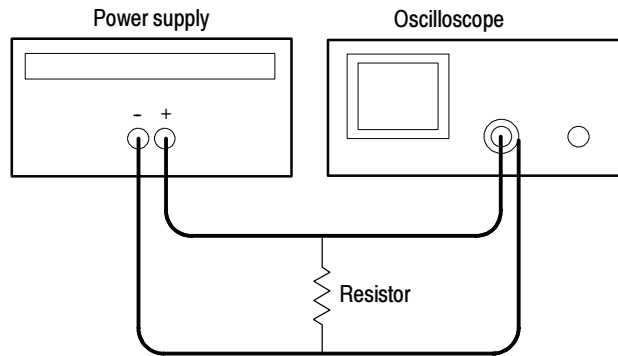

Figure 4: Constant voltage ripple and noise test setup
2. Ensure that the power supply output is disabled. Connect the oscilloscope and $27\ \Omega$ 100 W resistor to the front panel OUTPUT 1 terminals. See Figure 4 for details.
10. Ensure that the power supply output is disabled. Remove the leads from the front panel OUTPUT 1 terminals and connect them to the front panel OUTPUT 2 terminals. Maintain the equipment configuration and polarities shown in Figure 4.
2. Ensure that the power supply output is disabled. Connect the oscilloscope and $2.2\ \Omega$ 50 W resistor to the front panel OUTPUT 3 terminals. See Figure 4 for details.